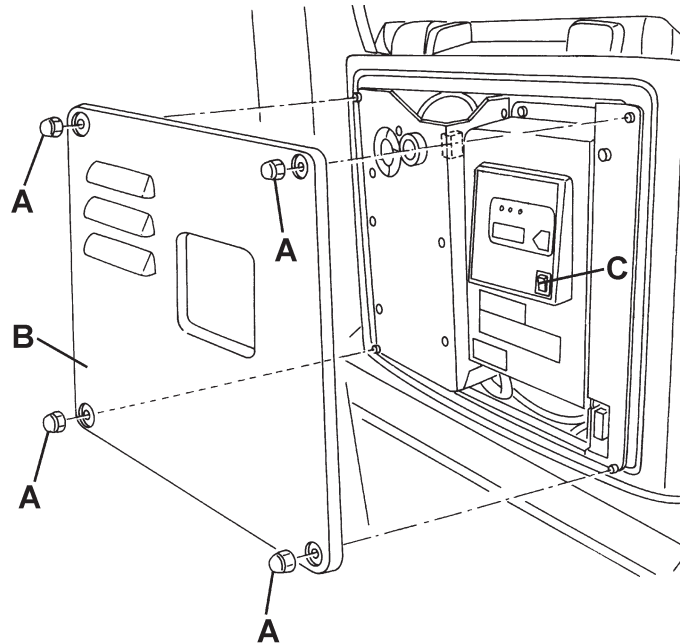

Figure 1
- Remove the screws (A, Fig. 1) and the panel (B).
- Turn the selector (C) to WET or GEL according to the type of batteries installed.
- Install the panel (B) and tighten the screws (A).